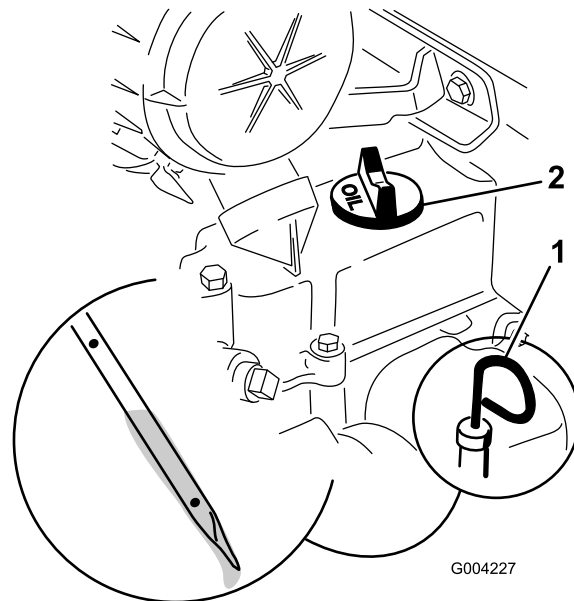

Figure 16
4. Clean around the oil dipstick (Figure 16).
5. Pull out the dipstick and wipe the metal end clean (Figure 16).
6. Slide the dipstick fully into the dipstick tube (Figure 16).
8. If the oil level is low (below the bottom hole), clean around the oil filler cap and remove the cap (Figure 16).